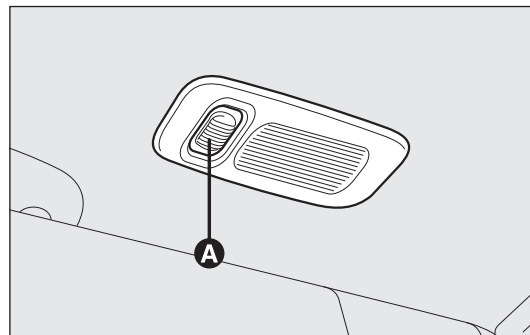

fig. 57
**COURTESY LIGHT fig. 57**
On some versions a courtesy light is fitted behind the passenger-side sun visor. Use button A-fig. 57 to turn the light on/off.